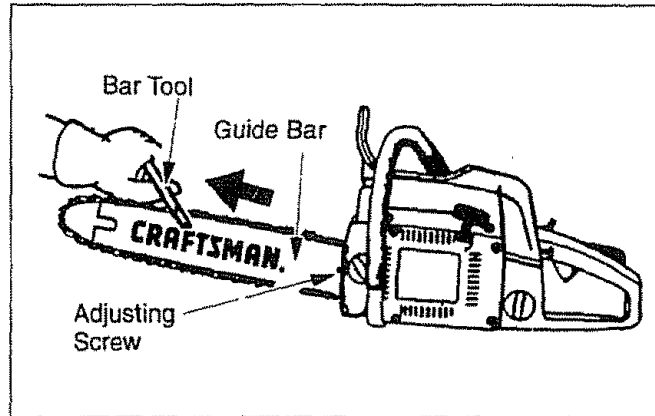

Figure 15
- Use the screwdriver end of the bar tool to move chain around the guide bar (see Fig. 15).